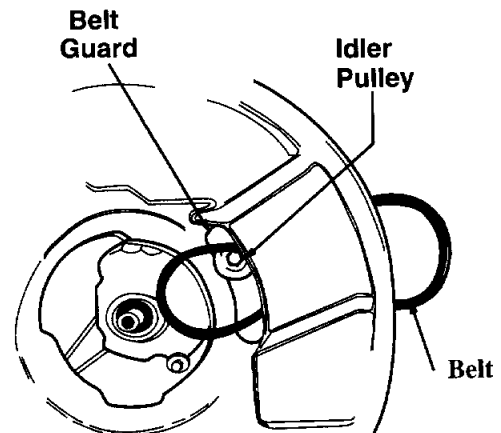

Figure 20.
9. Remove the belt from between the idler pulley and the belt guard on the idler pulley bracket. See figure 20.
1. Push the idler pulley up out of the way as shown in figure 20.
2. Slide the belt in from the rear of the deck, and place it around the transmission pulley. See figure 20.